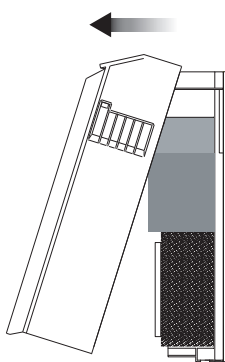

Fig. 2
- The hood of the AEROPAC is equipped with a spring-actuated lock, so that the appliance can be opened easily for a filter change. Simply pull on the lower edge of the hood and fold it up to the front (Fig. 2).